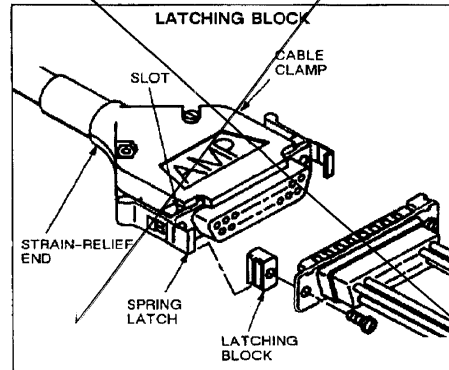

Fig. 5
4. LATCHING BLOCKS (Figure 5)
Cable clamps may be used with latching blocks (208101, 745007, 745245, and 745286) by removing mounting screws and replacing them with spring latches (745255-2). Refer to IS 9130 and to Figure 5 of this document for proper assembly of spring latches.